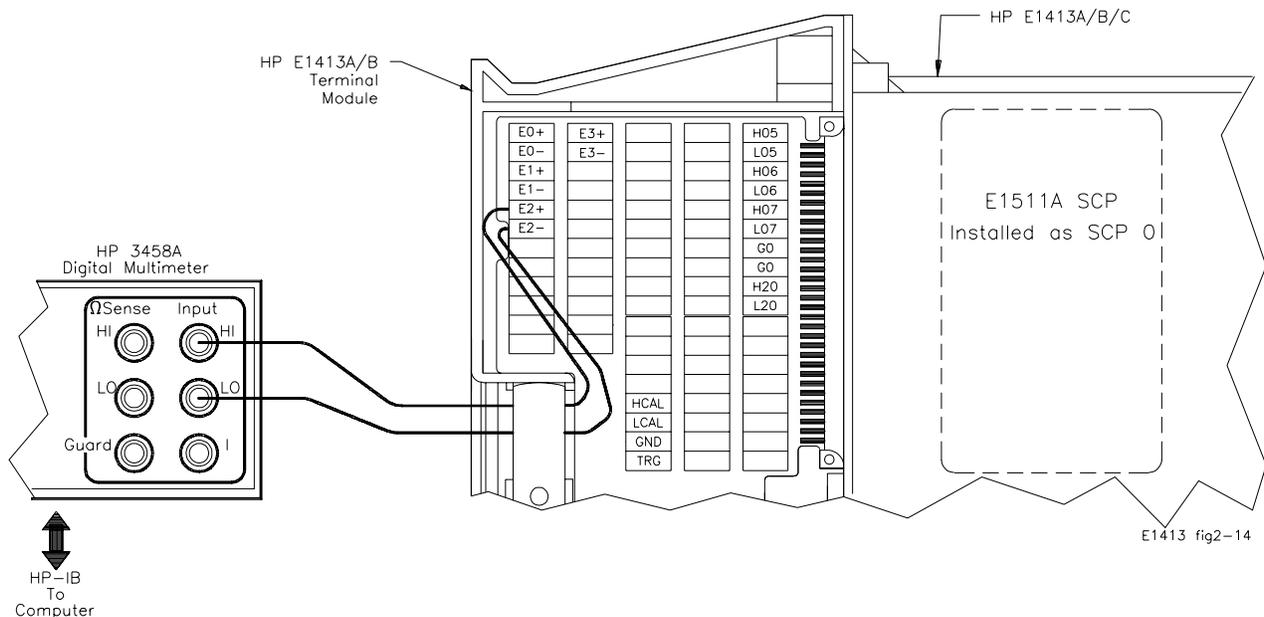

Figure 2-14. Typical Wiring Configuration
- [a] Connect wiring to terminal module and DMM (see Figure 2-14)